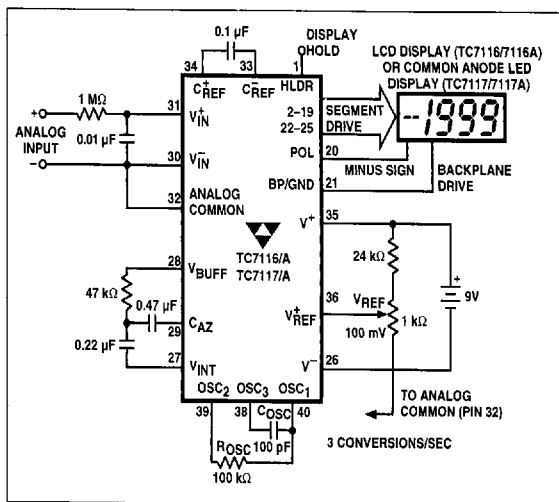

Figure 1. Typical TC7116/A/7/A Operating Circuit
- Unless otherwise noted, specifications apply at $T_A = +25^\circ\text{C}$, $f_{\text{CLOCK}} = 48 \text{ kHz}$. TC7116/TC7116A and TC7117/TC7117A are tested in the circuit of Figure 1.